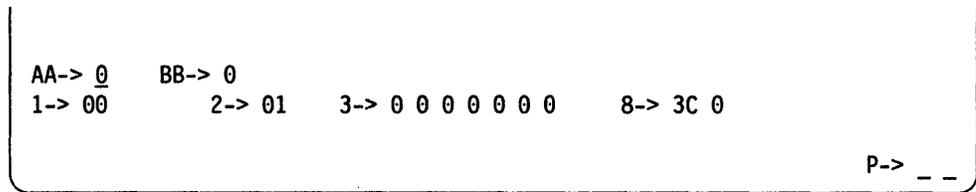

Figure 3-8. Cursor in Field AA of Operator Input Fields
11. Locate the cursor on your display screen. It is under the number 0 in Field AA. See Figure 3-8 on page 3-11.